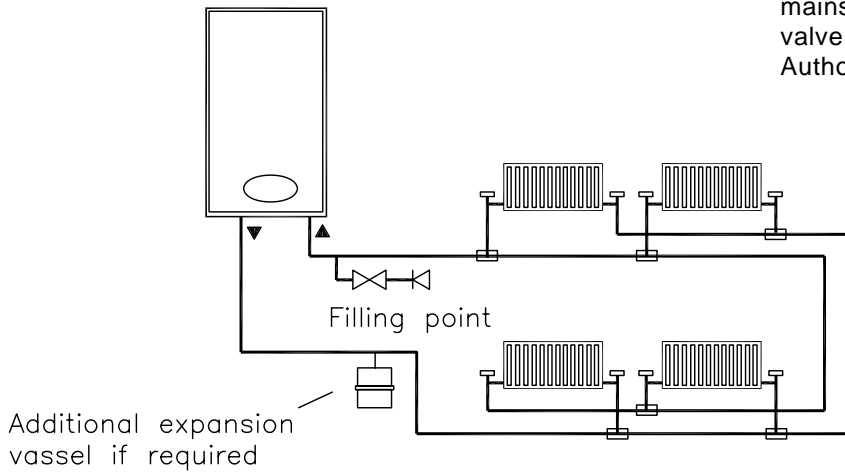

Fig. 7
It can accept up to 6 lts of expansion water. If the appliance is connected to a system with an unusually high water content, calculate the total expansion and add additional sealed expansion capacity as appropriate (Fig. 7). In general, modern systems will present no problem.
B) Where fitting of a make up vessel would be difficult, RE-PRESSURING of the system can be done. See section on FILLING. If the capacity of the central heating system should exceed 110 Litres, an additional vessel should be installed on the return to the combination boiler from the heating system (Fig. 7). Guidance on vessel sizing is given in (Table 3).